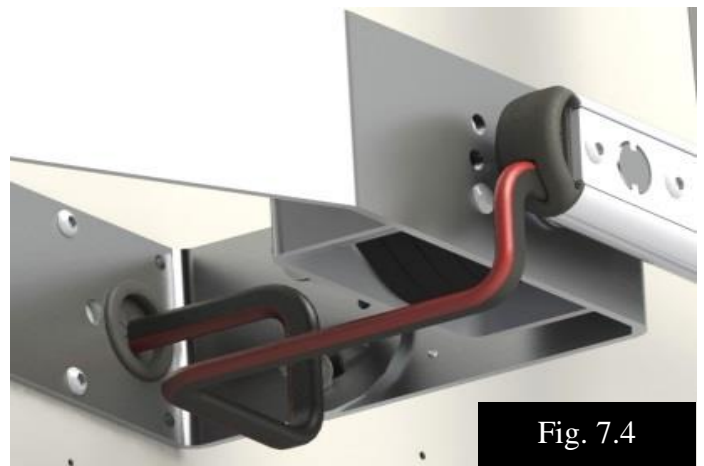

Fig. 7.4
2. Insert the grommet that is on the wire into the 2" hole in the mounting bracket. This need to be installed to prevent the wire from being damaged by rubbing in the aluminum hole. Leave some slack in the wire so the wire will not be stretched when the arm is swinging across the front of the trailer shown in Fig. 7.4.